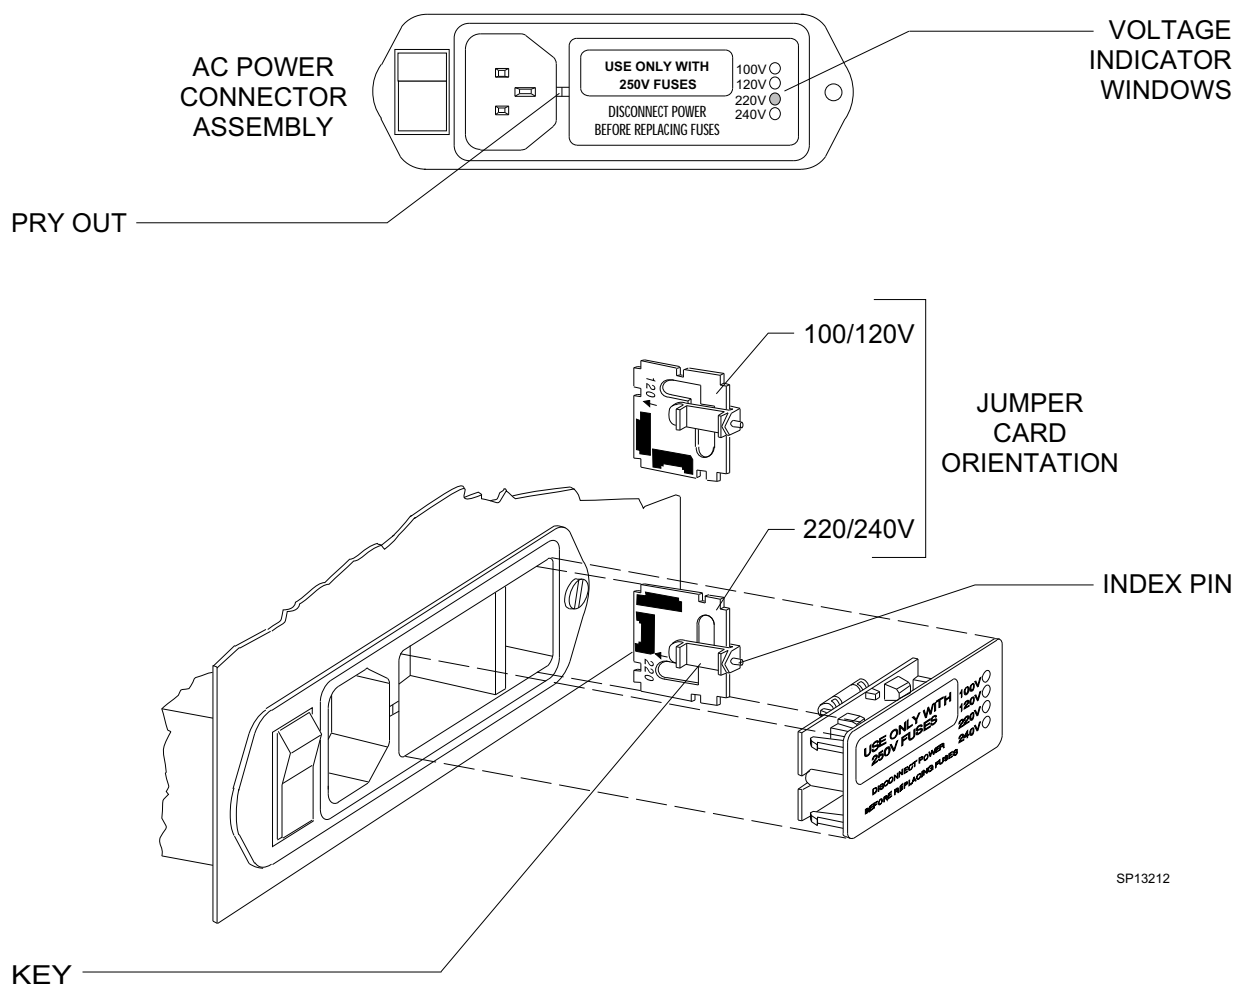

Figure 12: MAINS VOLTAGE SELECTION
44. On the rear panel of the ORDM CPU, check the voltage indicator window on the AC power connector assembly and ensure that the unit is configured for the mains voltage on which it is to operate. For 100 or 120 volt operation, the index pin should appear in the 120 V window; for 220 or 240 volt operation, the index pin should appear in the 220 V window. See Figure 12.
47. Rotate the jumper card so that the arrow corresponding to the desired mains voltage (120 for 110 V or 120 V operation, 220 for 220 V or 240 V operation) is pointing toward the inside of the AC power connector assembly. Orient the nylon key so that it is seated in the notch on the outside edge of the card with its index pin facing outward as shown in Figure 12.